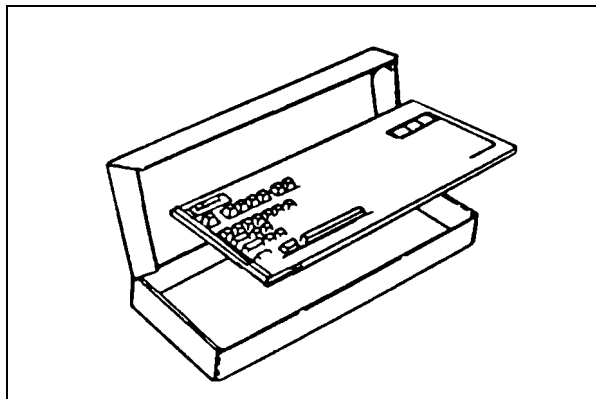

Figure 7-13. Repacking the Keyboard
6. Repackage the replaced keyboard (Figure 7-13) for return shipment.